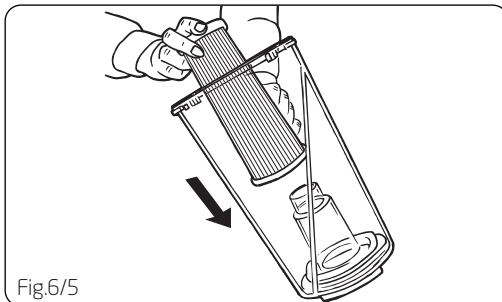

Fig.6/5
6. Align slots on the lid with the tabs on the dirt container (Fig.6/6A). Push the lid down and twist clockwise.